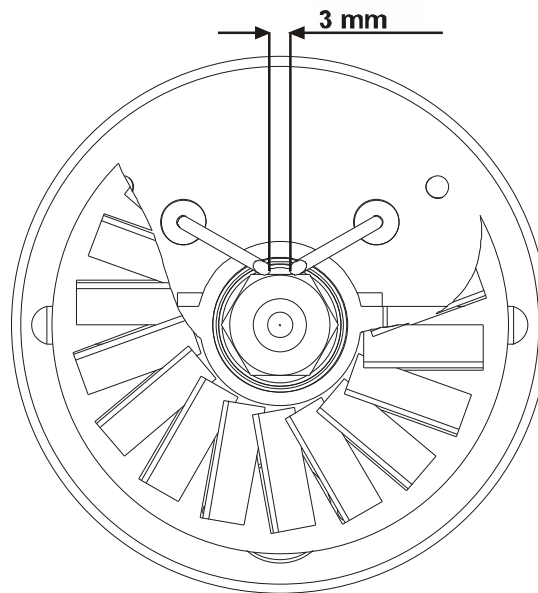

Figure 5-10 - Electrode Gap Adjustments
2. Using a feeler gauge ensure the electrode tips are set at 3mm centered on the nozzle (59) as shown in Figure 5-10. If needed, electrode tips may be adjusted by hand.